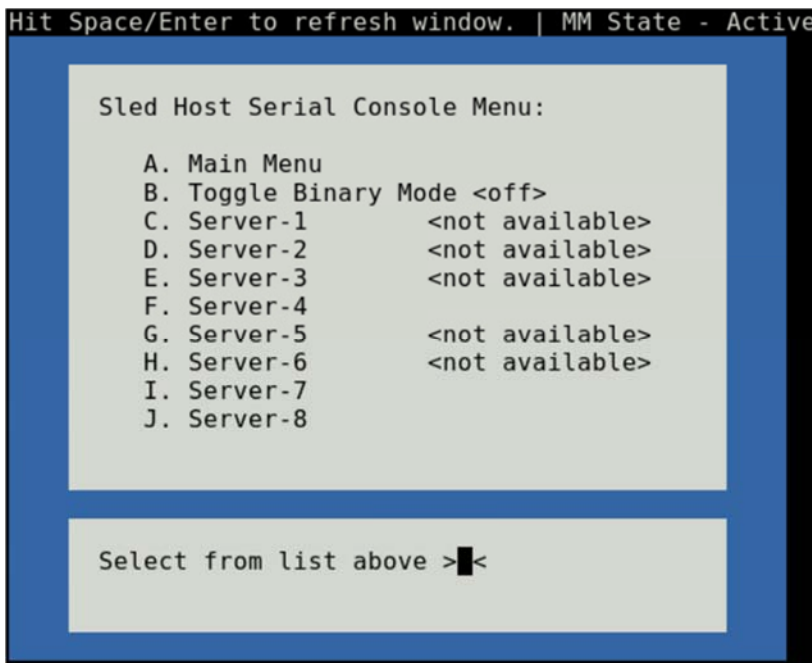

Figure 4 : Blade host menu
- Select C (Server Serial Console) to get to the blade host menu (Figure 4). TWO selections must be made on this menu: